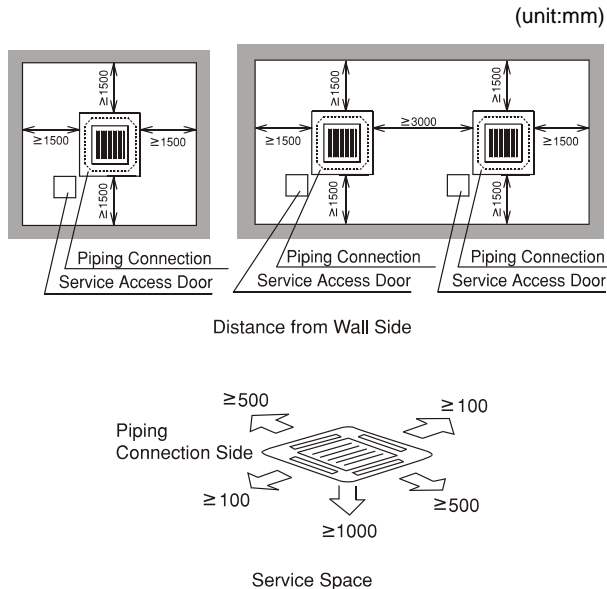

Fig. 4.1 Space around Indoor Unit
- Install the indoor unit with a proper clearance around it for operation and maintenance working space, as shown in Fig. 4.1.